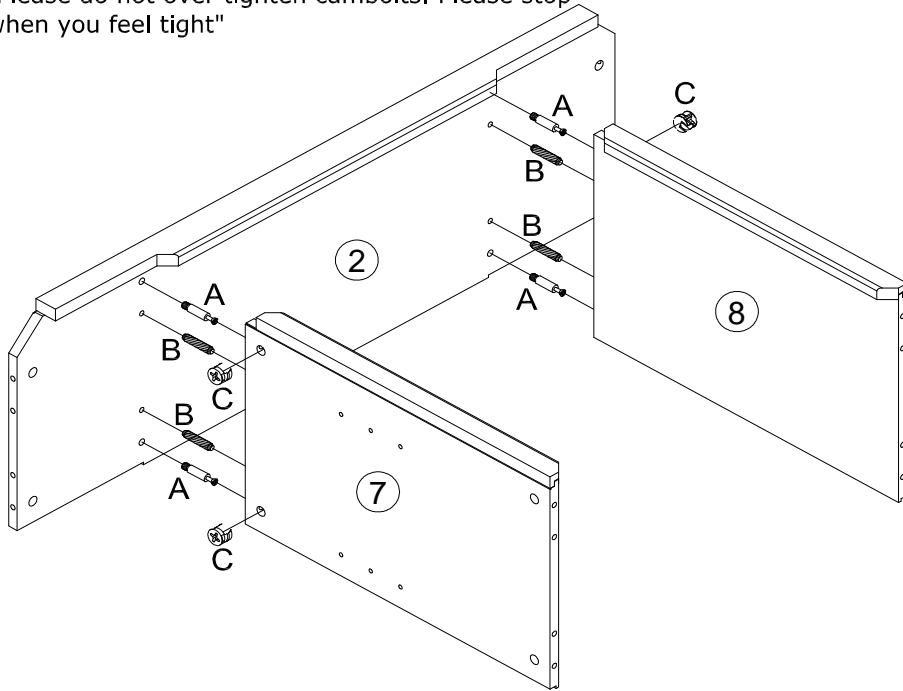

Figure 1
Insert cam locks (C) into predrilled holes on the pre-assembly parts in figure 1 .
Attach left side panel (3) & right side panel (4) to pre-assembly parts in figure 1 by inserting wood dowel (B) & cam bolt (A) into corresponding predrilled holes until assemble parts in figure 1 & left side panel (3) & right side panel (4) meet.